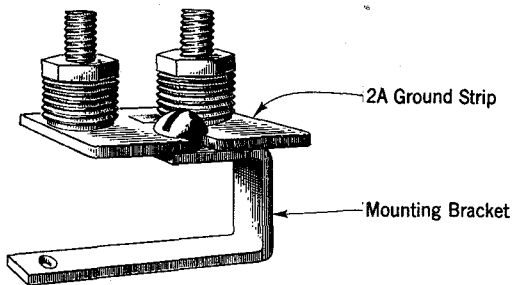
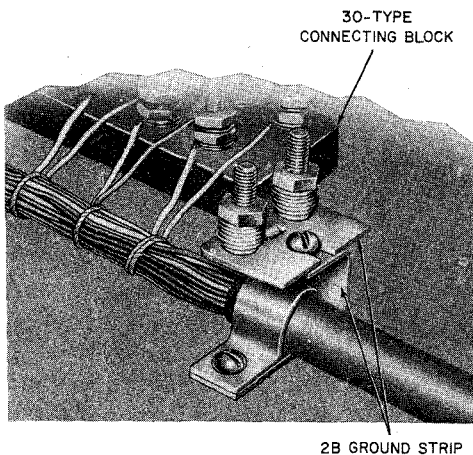

Fig. 69—2B Ground Strip
Fig. 70—Typical Installation of 2B Ground Strip
7.04 The 2B ground strip (Fig. 69) consists of an assembly of the 2A ground strip and a mounting bracket (Table G). See Fig. 70 for a typical installation of the 2B ground strip.